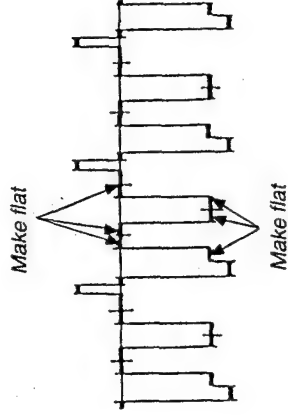

Fig. 6-2.
3. Adjust RV21 of BG board so that the output waveform becomes flat. (Fig. 6-2.)